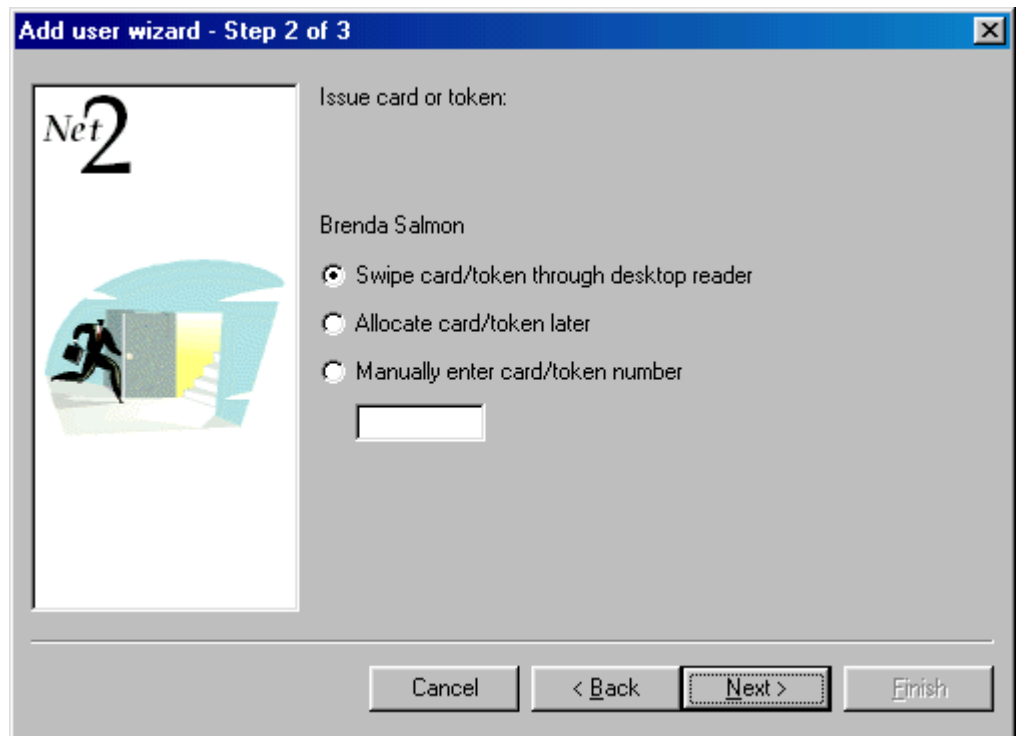

Figure 4.14
3. Select the relevant option, see figure 4.14.